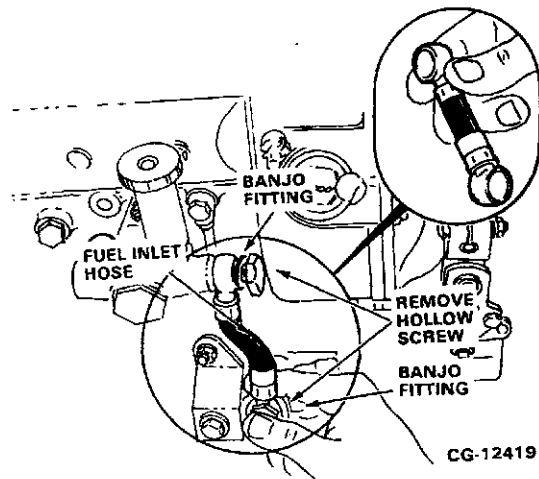

Figure 11.102. Remove Fuel Inlet Tube (Current Production)
- Remove the fuel inlet (fuel filter to supply pump) hose or tube as follows: (Refer to Figures 11.102 and 11.103)